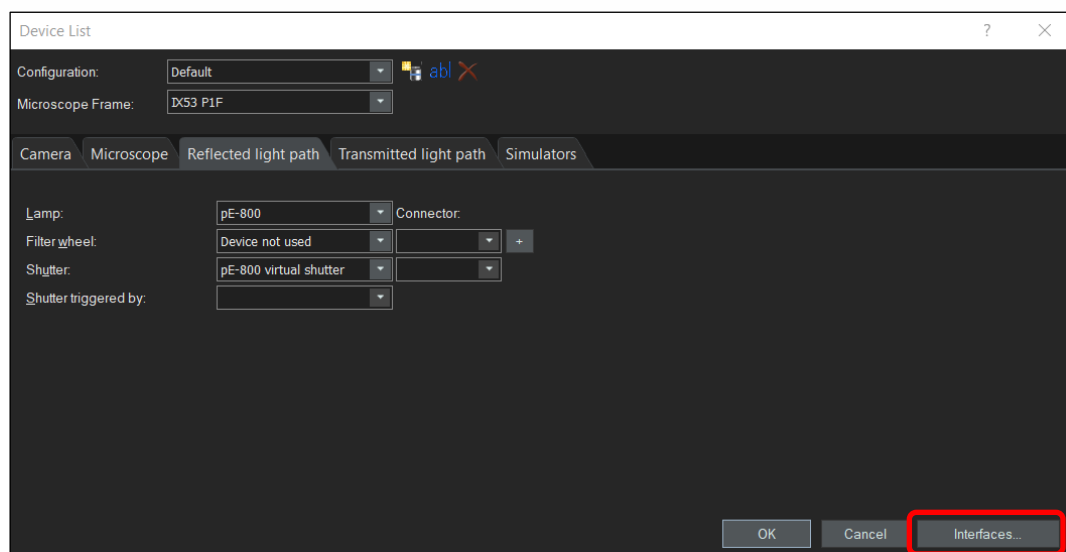

Figure 3: 'Device List'
3. On the same screen, click on 'Interfaces' (red box, Figure 3). If you have followed the steps in Section 2, assign the COM port identified here. If using the pE-800 or pE-800^{fura} with Microsoft Windows 10 or later, this will be automatically assigned.